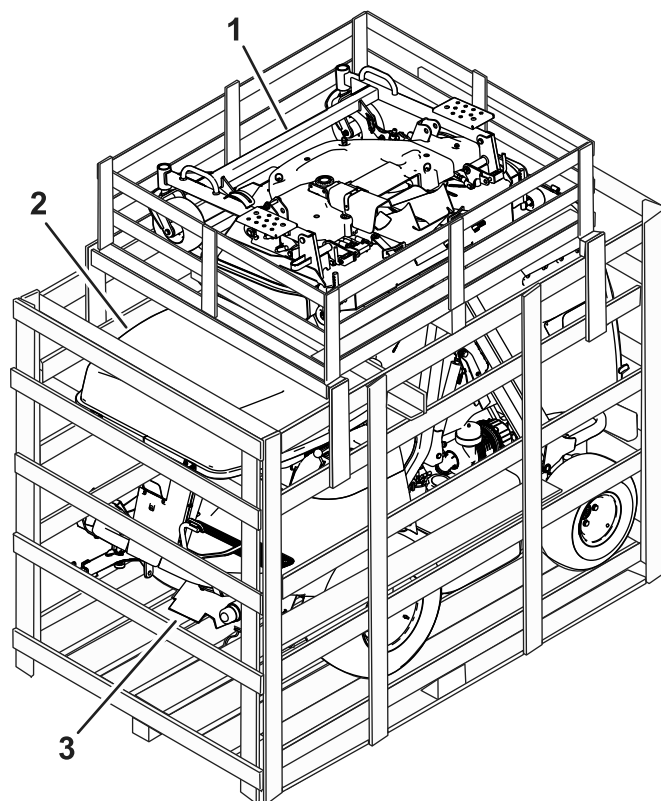

Figure 1
2. Remove the mower deck crate (Figure 1).
3. Remove the hopper door from the crate (Figure 1).
10. Remove the machine from the crate (Figure 1).